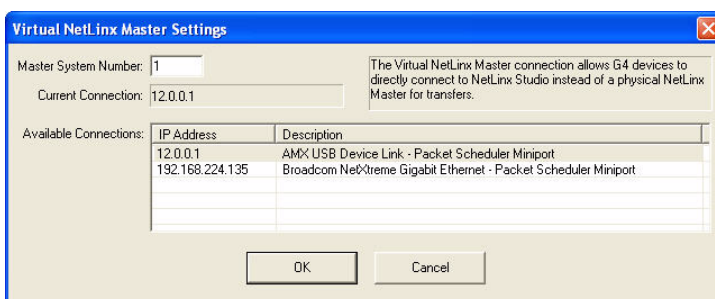

FIG. 105 Virtual NetLinX Master Settings
5. Click the **Edit Settings** button on the *Communications Settings* dialog to open the *Virtual NetLinX Master Settings* dialog (FIG. 105).